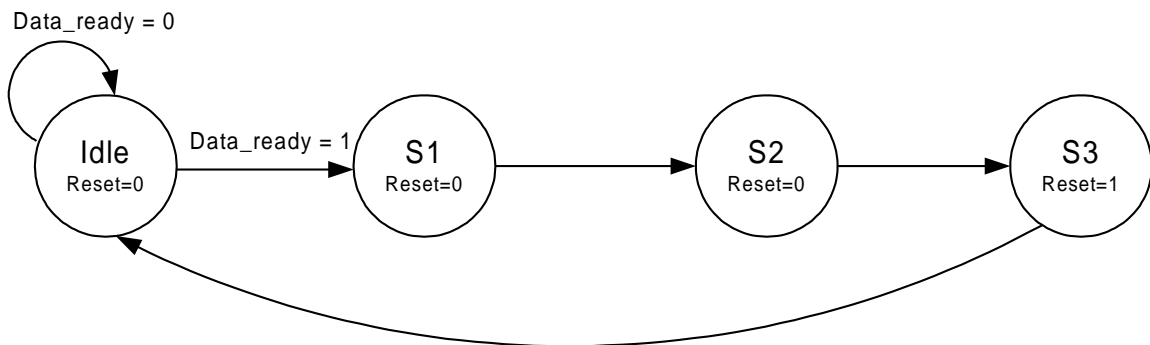

Figure 40
74. Based on the above description design a state machine for this purpose (Figure 40).